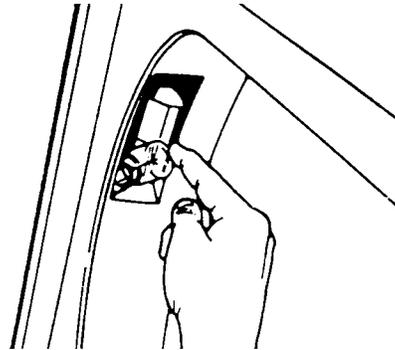

Fig. 18
3. Tip the light socket forward and remove the bulb. (Fig. 18)